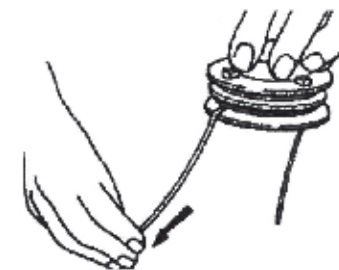

FIG. 4
5. Lock each line end in the opposite clamping slot. (Fig. 4)